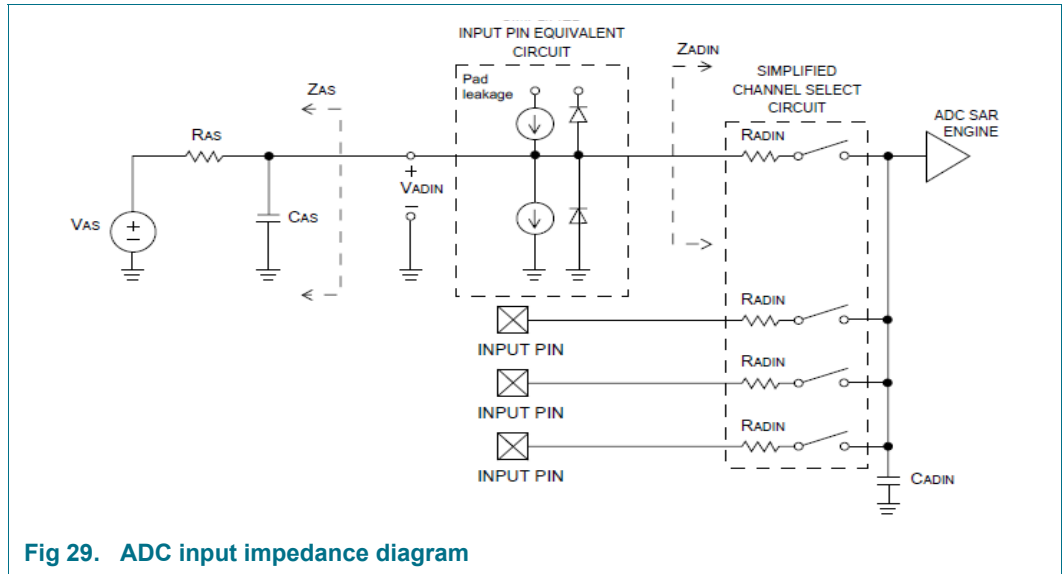

Fig 29. ADC input impedance diagram
- [3] CADIN represents the external capacitance on the analog input channel for sampling speeds of 1.0 Msamples/s. No parasitic capacitances included. See Figure 29
- [8] This resistance is external to the MCU. To achieve the best results, the analog source resistance must be kept as low possible. The results in this data sheet were derived from a system that had $< 15\text{ }\Omega$ analog source resistance. See Figure 29.